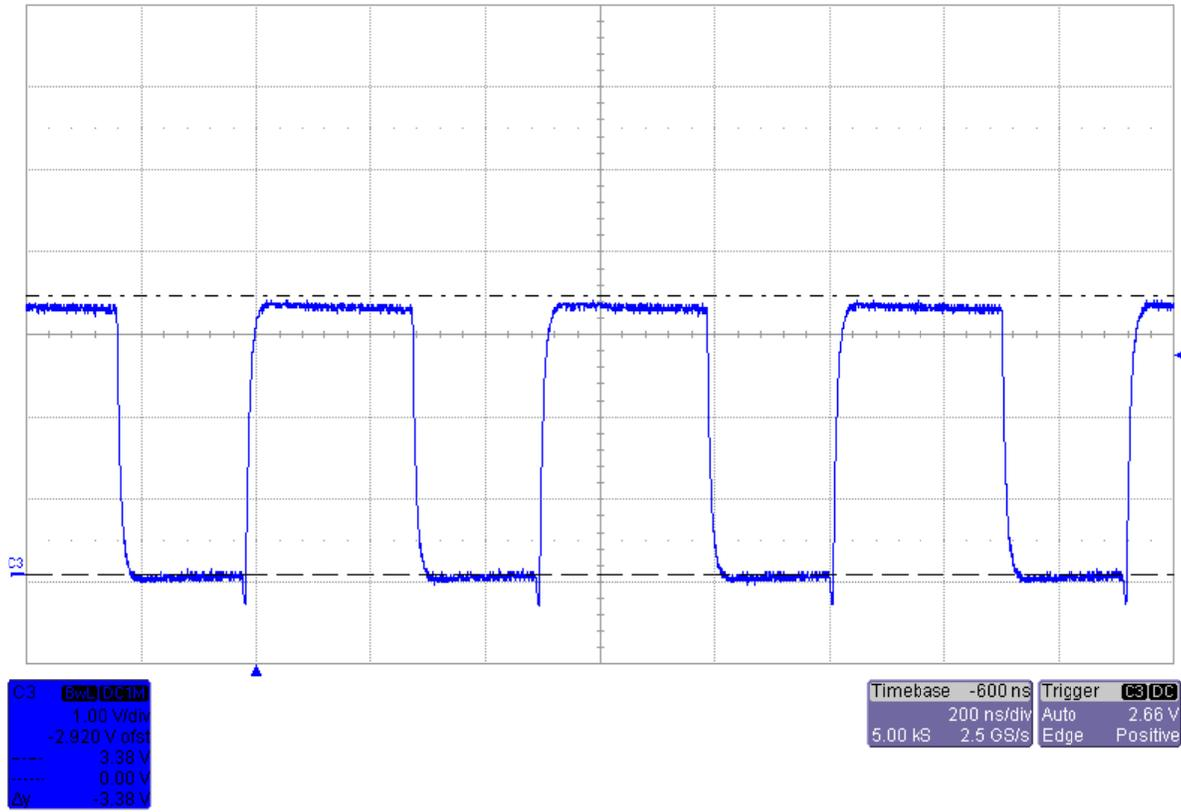

Figure 6: Switching Waveform of 1V8_BUCK at 500 mA
- Figure 6: Switching Waveform of 1V8_BUCK at 500 mA